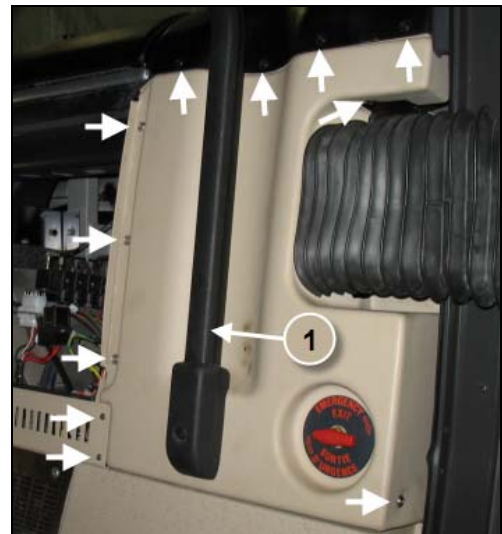

FIGURE 5
2. Locate the wiper motor located at right of the two multiplex modules (refer to figure 5).
3. Remove the door air cylinder access panel (figure 5). To do so, first remove the handrail (item 1, figure 5) then remove the access panel mounting screws (11 screws). The door emergency valve doesn't need to be removed as the air tubing extra length allows putting the panel aside.